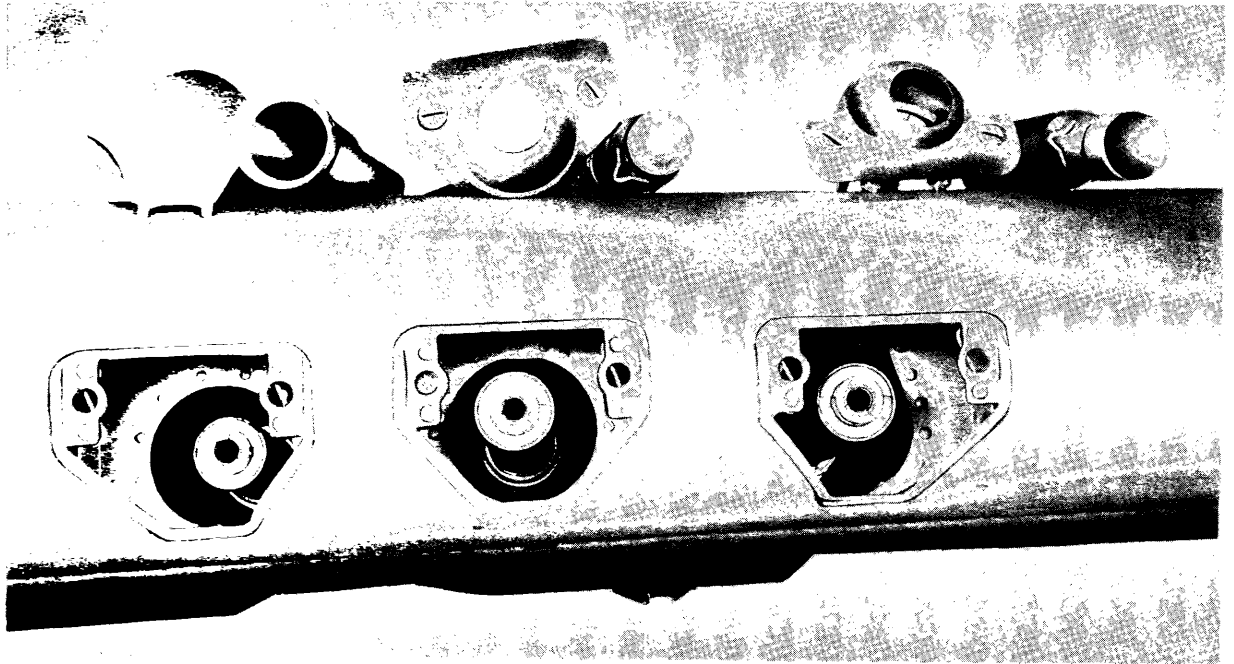

Figure 98 - Blast Tubes Removed from Retainers
- (c) **Figure 98.** - Remove blast tubes by unscrewing by hand.